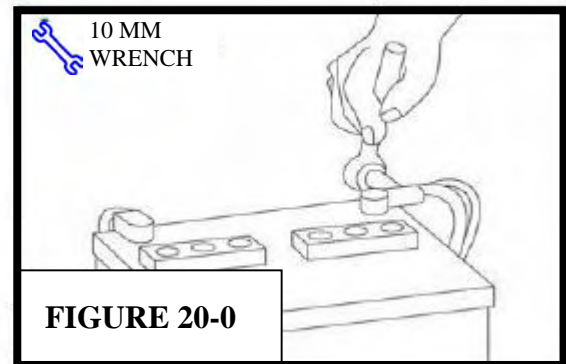

FIGURE 20-0
- (a). Connect negative battery cable and torque to 36" lbs. **(FIGURE 20-0)**